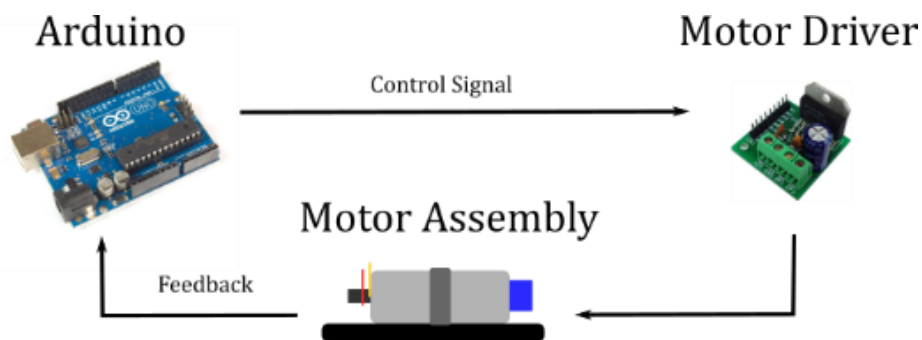
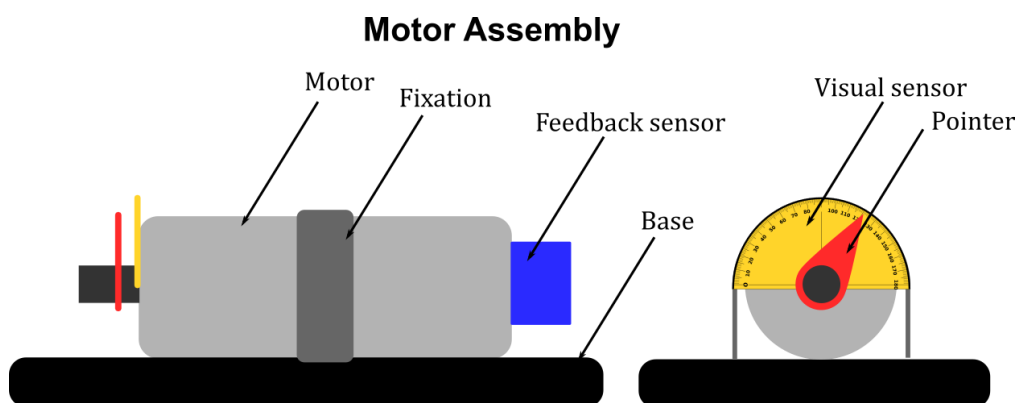

Figure 1: Position Control project layout
Figure 2: Motor Assembly used in project 1.
The project setup consists of a geared DC motor. Attached to the motor, an angular position sensor for feedback. Figure 1: Position Control project layout Figure 1 and Figure 2 show the complete layout of the project. The controller will be implemented using the Arduino microcontroller. The Arduino will be programmed so that it can read the feedback signal, compare it to the set point and apply different control algorithms to calculate the control signal. Arduino then supplies this signal as an output to the motor driver which control the speed and direction of the motor until it gets to the required position.
- Manually control the angular position of the pointer using potentiometer and two switches as shown in Figure 1.
- Fully implemented the system as shown in Figure 1.